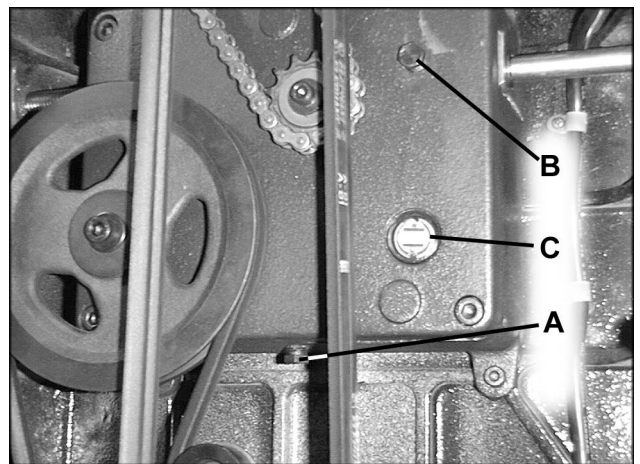

FIGURE 23
The gear box oil should be changed once a year. The drain plug (A) is shown in Figure 23. Refill the gear box with 60-90 weight gear oil through the fill hole (B). The sight glass (C) should be checked periodically and oil added as necessary.